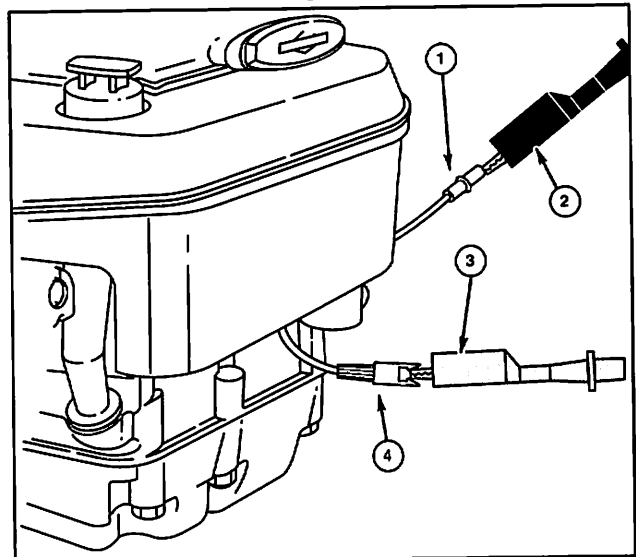

Fig. 16
1. Insert RED test lead (3) into 10 A receptacle in meter.
2. Insert BLACK test lead (2) into COM receptacle in meter.
4. Attach RED test clip to stator output lead (4), Fig. 16 (Typical).